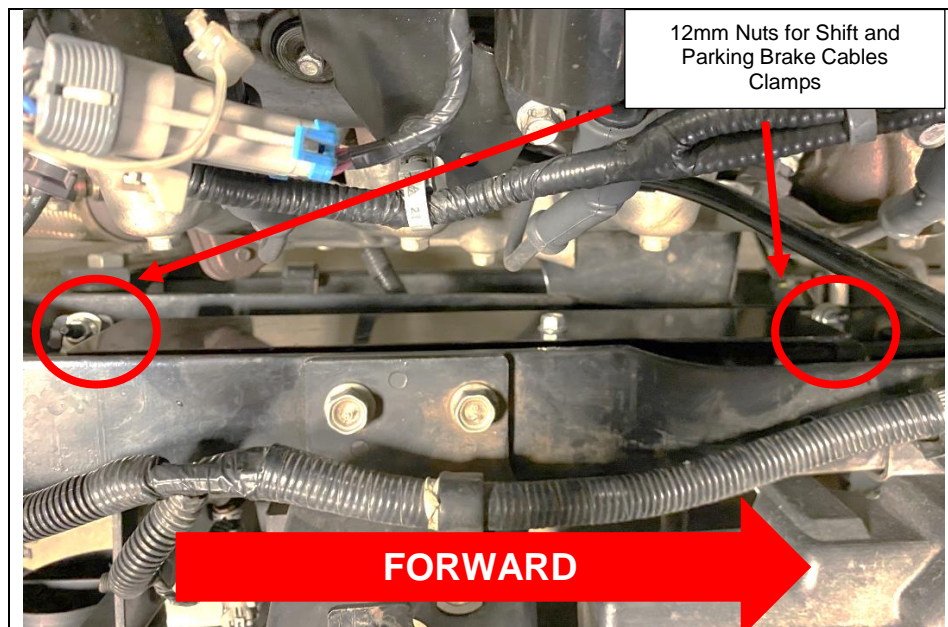

Figure 6
8. Remove the two (2) bolts, two (2) hose clamps, and the Mass Air Flow (MAF) Sensor wire clamp to remove the complete Air Intake Duct Assembly. Set aside for reuse later.
9. Remove the two (2) nuts holding the shift and parking brake cable clamps onto the right side frame mounted heat shield. (See Figure 6). Remove the clamps off of the studs but leave the clamps wrapped around the cables.
28. Install the two (2) clamps holding the brake and shifter cables to the right hand frame heat shield. Install the two (2) 12mm nuts in place on the clamp studs and tighten the nuts to 16 N•m (12 lb ft). (See Figure 6.)
29. Install the Air Intake Duct Assembly. Install the two (2) 12mm mounting bolts and tighten to 16 N•m (12 lb ft). Tighten the two (2) hose clamps on either end of the Intake Tube Assembly. Install the MAF Sensor wire clamp back into the Air Intake Duct.